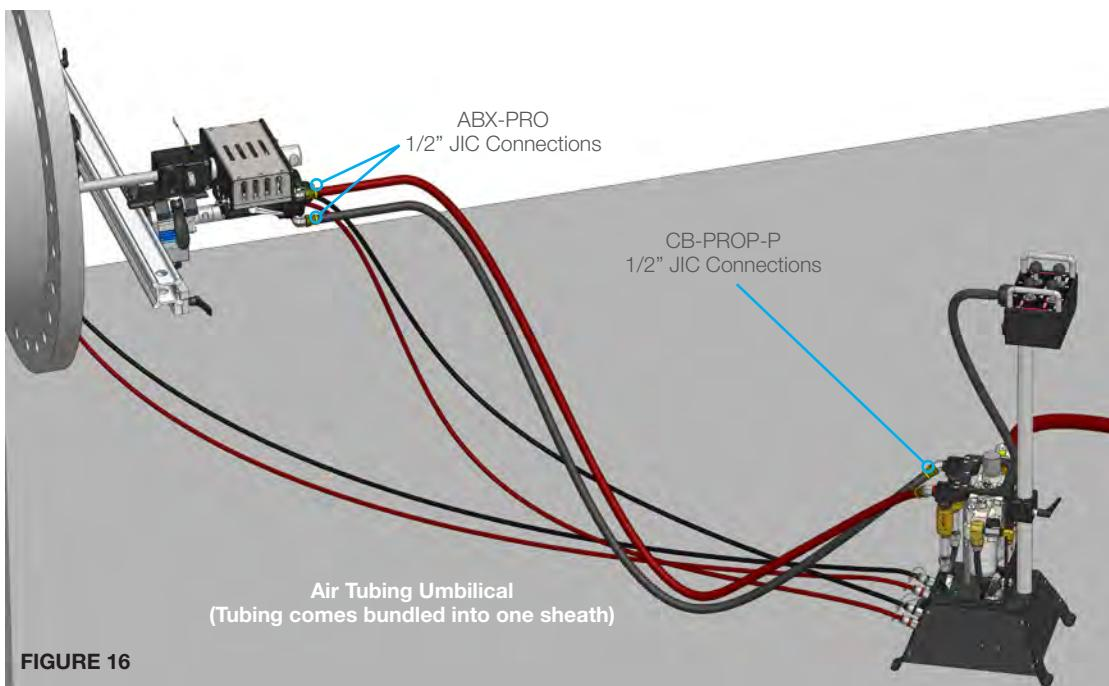

FIGURE 16
23. Screw the color coded 1/2" Pneumatic Hoses to the Color Coded JIC Fittings on the ABX-PRO Tractor. **(Figure 16)**
25. Screw the opposite ends of the color coded 1/2" Pneumatic Hoses to the Color Coded JIC Fittings on the Control Box. **(Figure 16)**